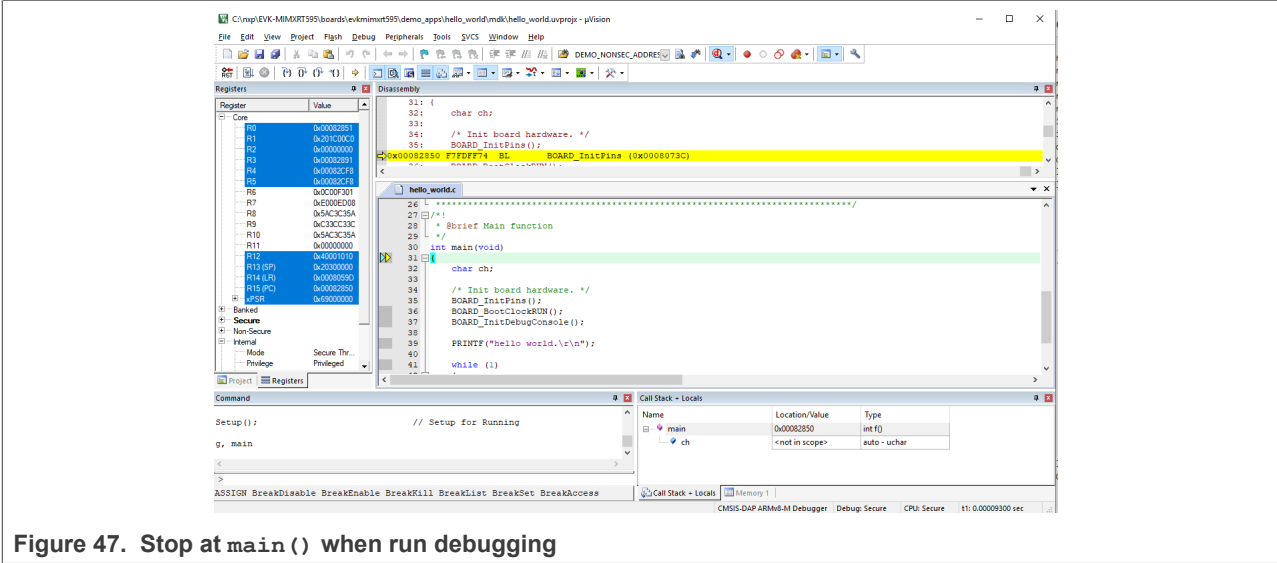

Figure 47. Stop at main () when run debugging
- To debug the application, click **load** (or press the F8 key). Then, click the **Start/Stop Debug Session** button, highlighted in red in Figure 47. If using **J-Link** as the debugger, click **Project option >Debug >Settings >Debug >Port**, and select **SW**.